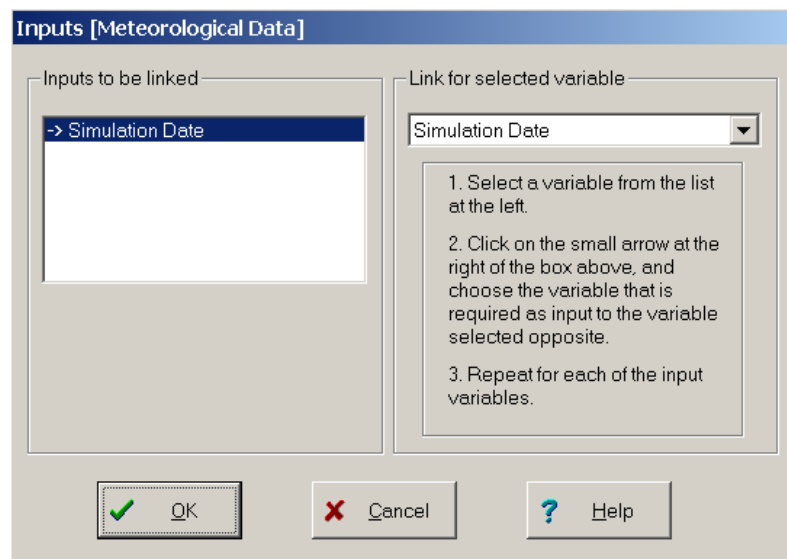

Figure 3.1 'Inputs [Meteorological Data]' Link Window
12. Select **'Inputs'** to produce the **'Inputs [Meteorological Database]'** link window (figure 3.1)